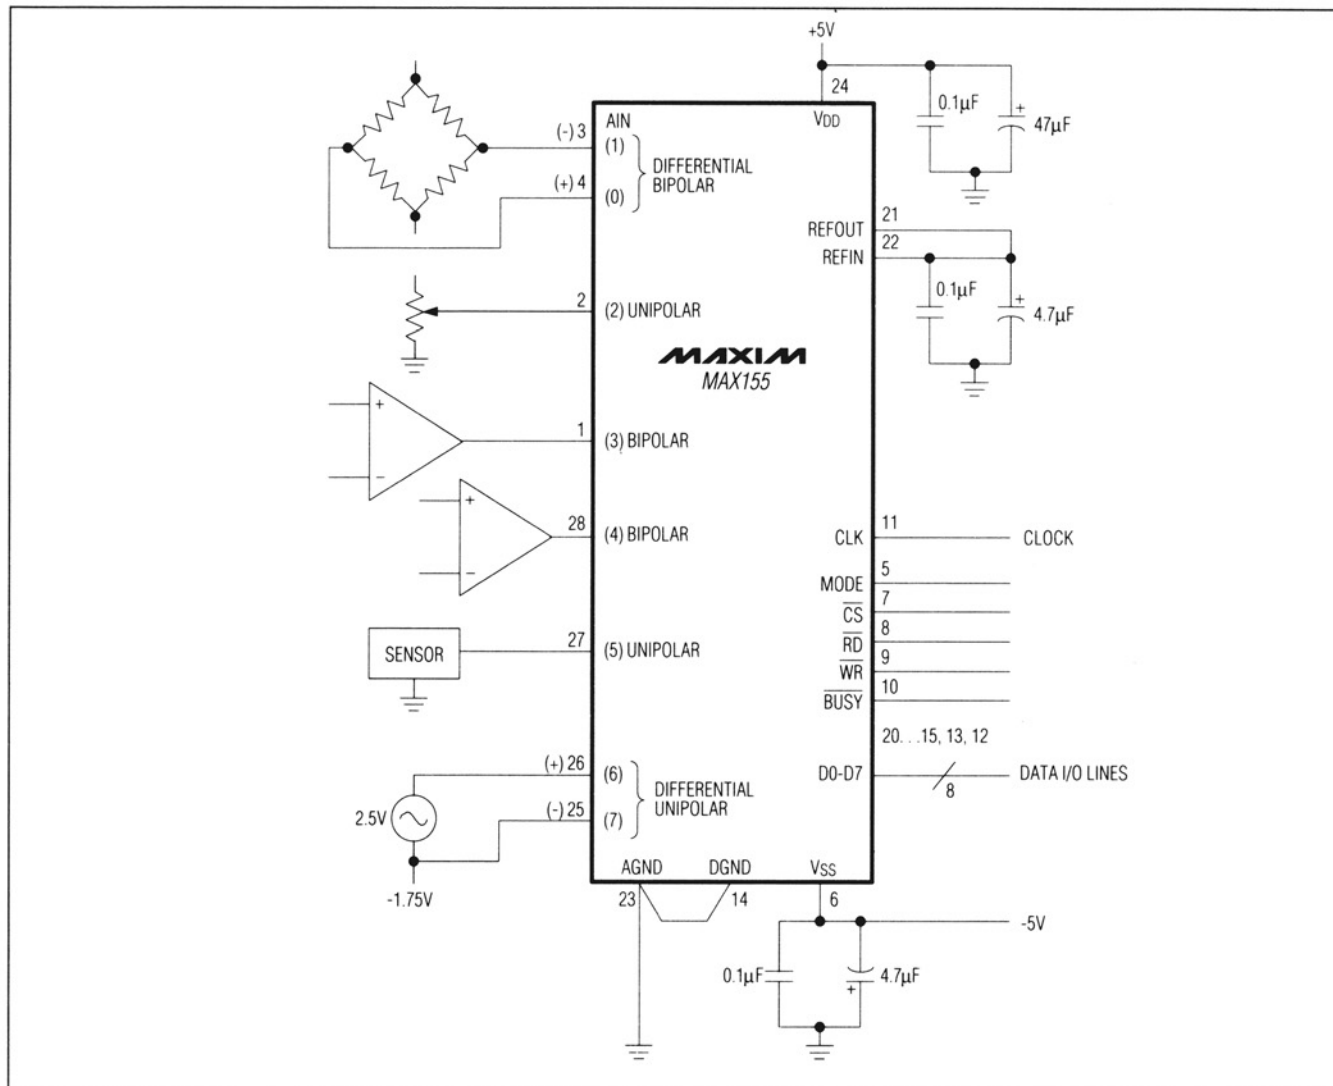

Figure 10. MAX155/MAX156 Typical Operating Circuit
where N is the number of channels converted. This includes one clock cycle of uncertainty. For a single channel and 5MHz clock, the conversion time is  $(9 \times 1 \times 2) / 5MHz = 3.6\mu s$ . For the MAX155, the maximum conversion time for 8 channels is  $(9 \times 8 \times 2) / 5MHz = 28.8\mu s$ . In the application example (Figure 10), six conversions are configured, and the conversion time is  $(9 \times 6 \times 2) / 5MHz = 21.6\mu s$ .
MAX155/MAX156 address and configuration inputs for this example were determined by selecting the desired channel configurations in Tables 2 and 3. Figure 10 illustrates the configuration outlined in Table 5.
3. Data is read from RAM with  $\text{INH} = \text{L}$  and consecutive  $\overline{\text{RD}}$  strobes. Note that in the 6 channel configurations described in this example (Figure 10), 6  $\overline{\text{RD}}$  pulses access all available data, starting with the differential channel (1,0). Additional  $\overline{\text{RD}}$  pulses loop around, accessing the lowest channel data again.